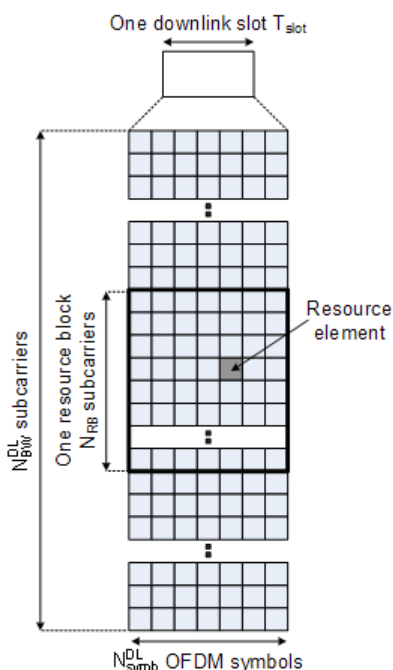

Fig. 1-5: Downlink Resource Grid
figure 1-5 shows the structure of the downlink resource grid for the duration of one downlink slot. The available downlink bandwidth consists of N_{BW}^{DL} subcarriers with a spacing of $\Delta f = 15$ kHz. In the case of multi-cell MBMS transmission, a subcarrier spacing of $\Delta f = 7.5$ kHz is also possible. N_{BW}^{DL} can vary in order to allow for scalable bandwidth operation up to 20 MHz. Initially, the bandwidths for LTE were explicitly defined within layer 1 specifications. Later on a bandwidth agnostic layer 1 was introduced, with N_{BW}^{DL} for the different bandwidths to be specified by 3GPP RAN4 to meet performance requirements, e.g. for out-of-band emission requirements and regulatory emission limits.
Data is allocated to the UEs in terms of resource blocks. A physical resource block consists of 12 (24) consecutive subcarriers in the frequency domain for the $\Delta f=15$ kHz ($\Delta f=7.5$ kHz) case. In the time domain, a physical resource block consists of DL N_{symbol} consecutive OFDM symbols, see figure 1-5. $N_{\text{symbol}}^{\text{DL}}$ is equal to the number of OFDM symbols in a slot. The resource block size is the same for all bandwidths, therefore the number of available physical resource blocks depends on the bandwidth. Depending on the required data rate, each UE can be assigned one or more resource blocks in each transmission time interval of 1 ms. The scheduling decision is done in the base station (eNodeB). The user data is carried on the physical downlink shared channel (PDSCH). Downlink control signaling on the physical downlink control channel (PDCCH) is used to convey the scheduling decisions to individual UEs. The PDCCH is located in the first OFDM symbols of a slot.